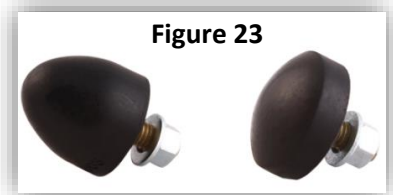

Figure 23
2. This suspension system will come with two sizes of bump stop. Install the larger of the two axle-bump stops onto the notch bracket unless your low ride height necessitates the shorter bump stop. **(Figure 23)**